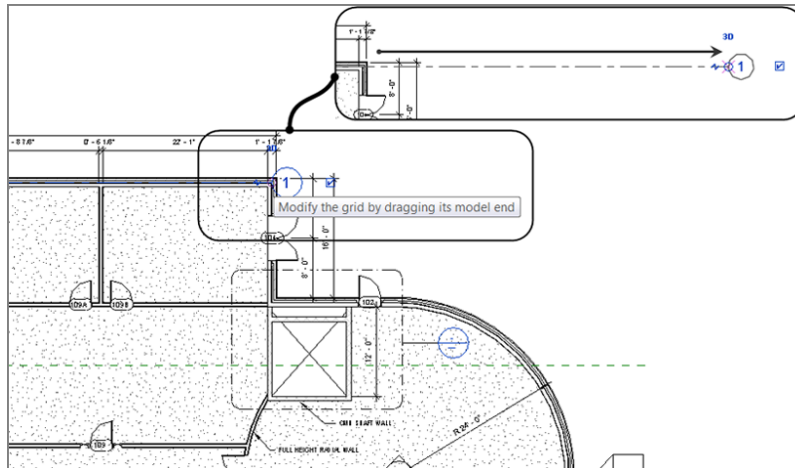

FIGURE 8.3: Examining the column grid grips
6. The grid bubble needs to be moved. Press Esc twice, or click Modify (to clear the command) and select the grid bubble. Notice the round blue grip similar to that in Figure 8.3.